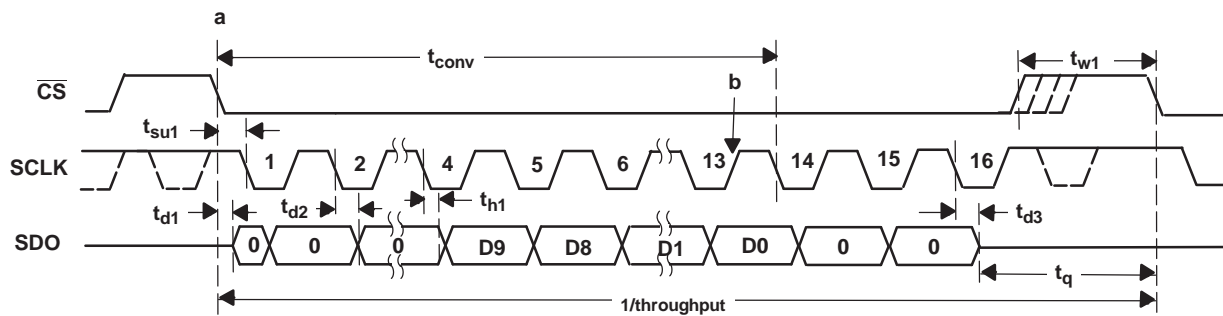

图 1. Interface Timing Diagram
**TIMING REQUIREMENTS (see 图 1)**
The cycle begins with the falling edge of  $\overline{\text{CS}}$ . This point is indicated as **a** in 图 1. With the falling edge of  $\overline{\text{CS}}$ , the input signal is sampled and the conversion process is initiated. The device outputs data while the conversion is in progress. The data word contains 4 leading zeros, followed by 10-bit data in MSB first format and padded by 2 lagging zeros.
The falling edge of  $\overline{\text{CS}}$  clocks out the first zero, and a zero is clocked out on every falling edge of the clock until the third edge. Data is in MSB first format with the MSB being clocked out on the 4th falling edge. Data is padded with two lagging zeros as shown in 图 1. On the 16th falling edge of SCLK, SDO goes to the 3-state condition. The conversion ends on the 14th falling edge of SCLK. The device enters the acquisition phase on the first rising edge of SCLK after the 13th falling edge. This point is indicated by **b** in 图 1.